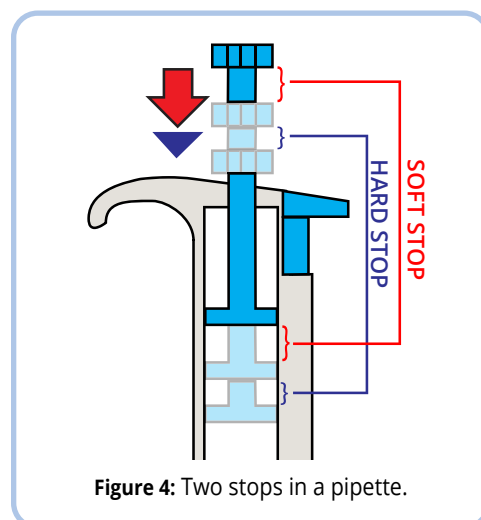

Figure 4: Two stops in a pipette.
*This step is slightly complicated by the fact that most micropipettes have two plunger positions (Figure 4). Depressing the button to the first "soft" stop (red brackets in Fig. 4) creates a vacuum that matches the set volume. This will result in the correct amount being aspirated. However, depressing the button to the second "hard" stop (red + blue brackets in Fig. 4) will expel additional air and create a larger vacuum than desired. While a great feature for purging, using the second stop when aspirating will create an inaccurate measurement.